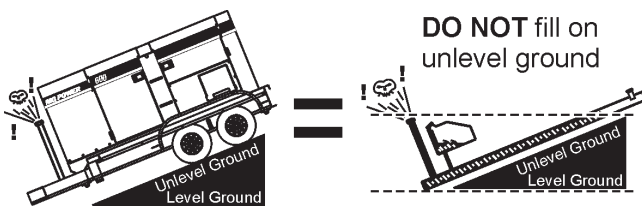

Figure 33. Only Fill on Level Ground
1. **Level Tanks** – make sure fuel cells are level with the ground. Failure to do so will cause fuel to spill from the tank before reaching full capacity. See Figure 33.